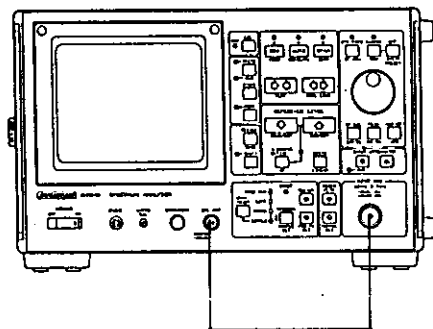

Figure 11-7 Residual FM Test Setup
(2) Procedure
- ① Set the spectrum analyzer as follows:
- ② Connect the spectrum analyzer CAL OUT connector and the INPUT connector with the supplied cable as shown in Figure 11-7.